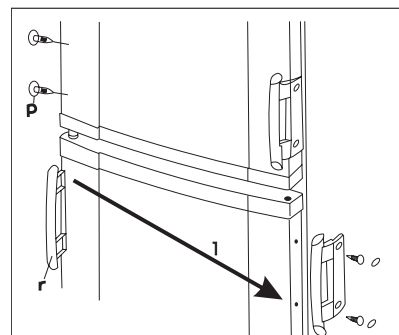

fig. 4.
16. Put over the handles (r) on the other side and put the plastic blanking pins (p) supplied in the plastic bag of this instruction book into the holes set free. (fig. 4)